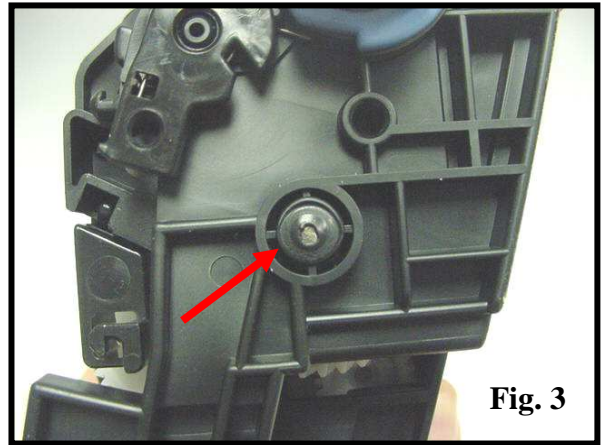

Fig. 3
3. Two pins located on each side of the cartridge secure the toner section to the drum unit. There is plastic covering a portion of the pin to prevent removal (Fig. 3).